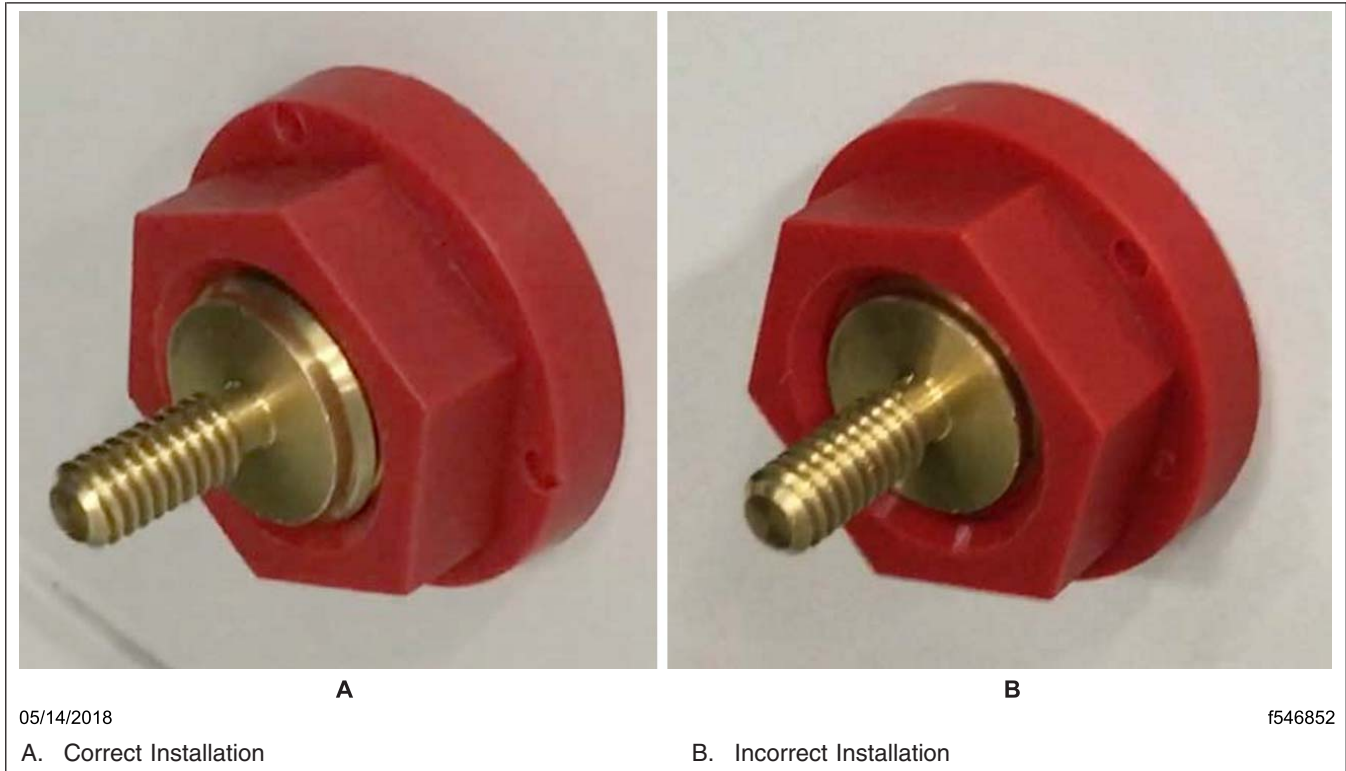
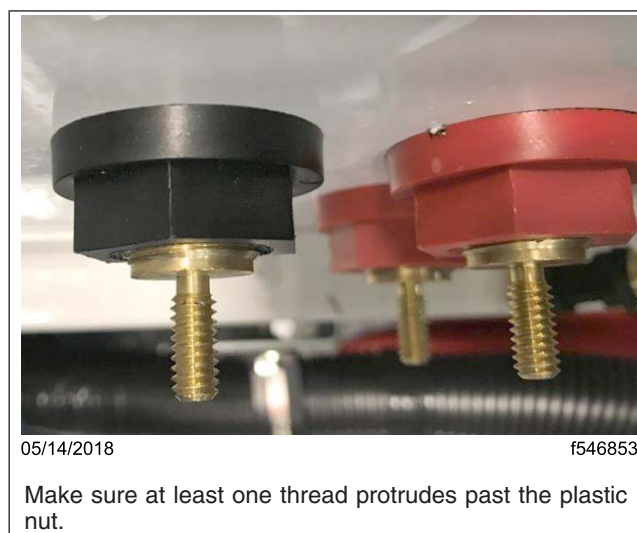

Fig. 3, Installation Inspection
Fig. 4, Correctly Installed Pass-Through
4. Pull back the covers on the battery bulkhead connectors. See Fig. 2. Inspect the bulkhead studs to make sure at least one thread protrudes past the plastic nut. See Fig. 3 and Fig. 4.